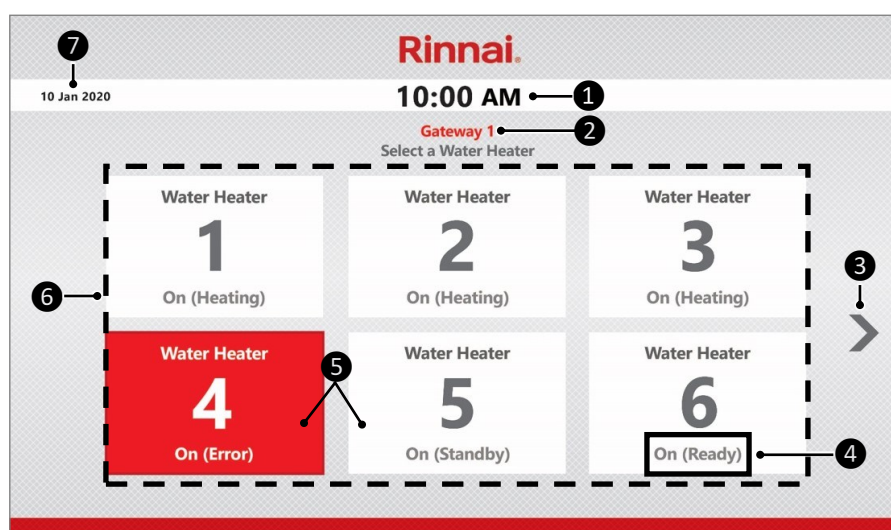
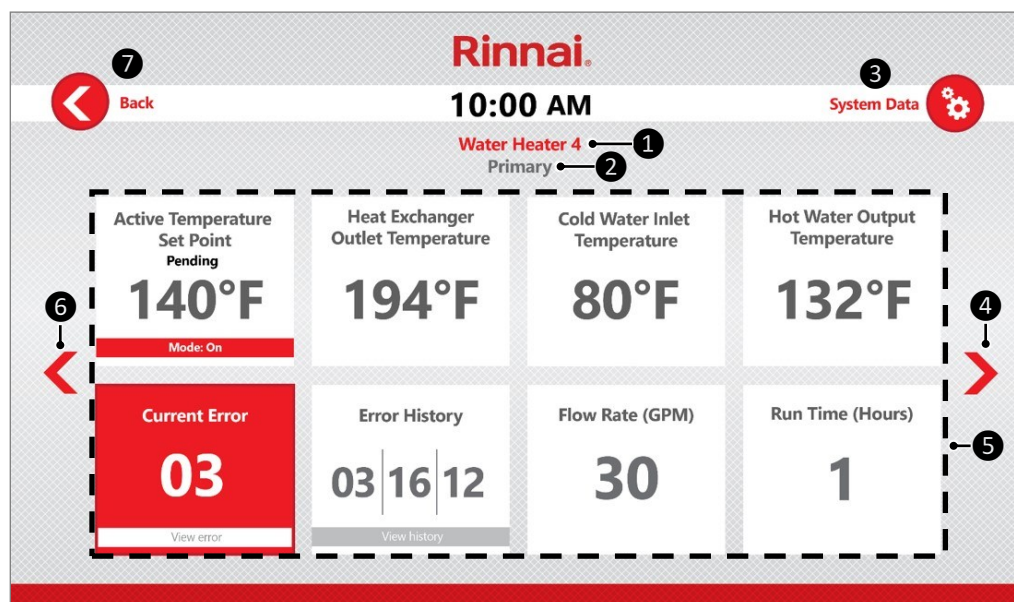

Fig 70. Main Screen
Fig 71. Tankless Water Heater Parameter Screen
Turn on the user interface by plugging the user interface power supply to a wall outlet. The main screen appears (Fig 70). The features on the screen are described in Table 18.
To view and adjust1 the parameters of a tankless water heater, select the water heater number from the main screen (Fig 70 on previous page). The tankless water heater parameter screen appears (Fig 71). Each feature on the screen is described in Table 19.
①	Tankless water heater number currently being viewed on the screen.
②	Indicates the tankless water heater is the primary unit for cascade communication and appears only if a cascade cable is connected to the tankless water heaters.
③	Press to view advanced system data, such as the tankless water heater fan speed, combustion frequency, exhaust temperature, and more (see section “7.2.2 System Data” for more information).
④	Press to view the parameters of the next tankless water heater.
⑤	Tankless water heater parameters (see section “7.2.1 Tankless Water Heater Parameters” for more information).
⑥	Press to view the parameters of the previous tankless water heater.
⑦	Press to return to the main screen (Fig 70 on previous page).